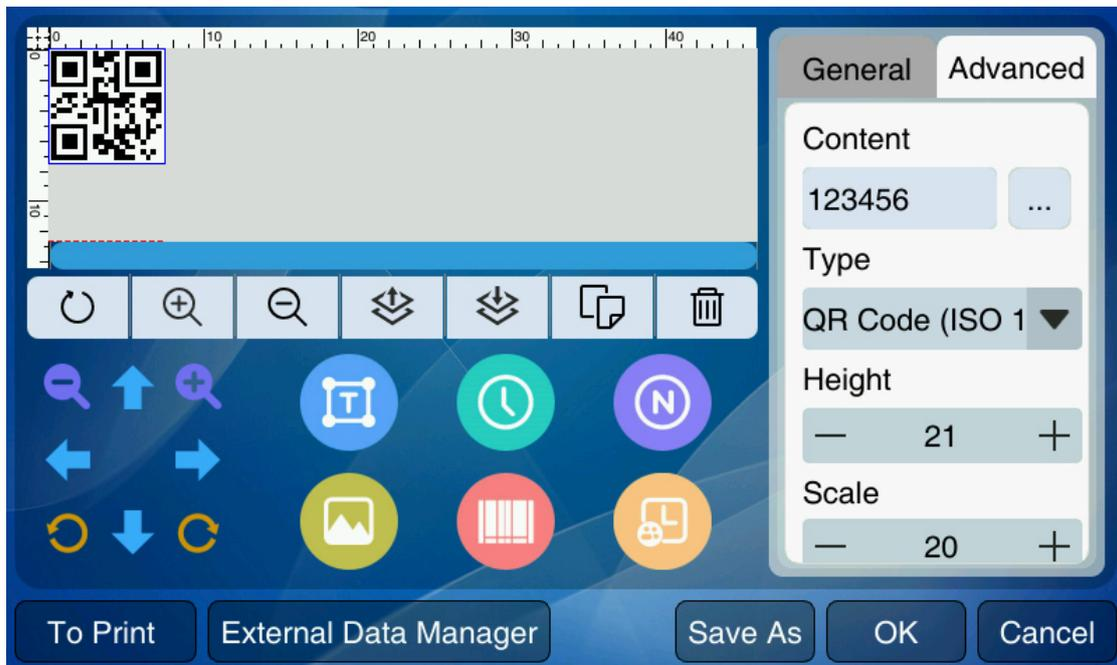

Figure 5-10 Bar code editing interface
- 1、 To print a barcode, click the button  in the "Information Button Area" and a default QR code entry will appear in the "Information Editing area". As shown in Figure 5-10.